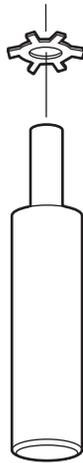

Figure 2-5 Wash Fitting Installation Tool
9. Slide the retaining ring onto the thin end of the wash fitting installation tool (Figure 2-5). The raised edges of the retaining ring should point downward onto the wash fitting installation tool.